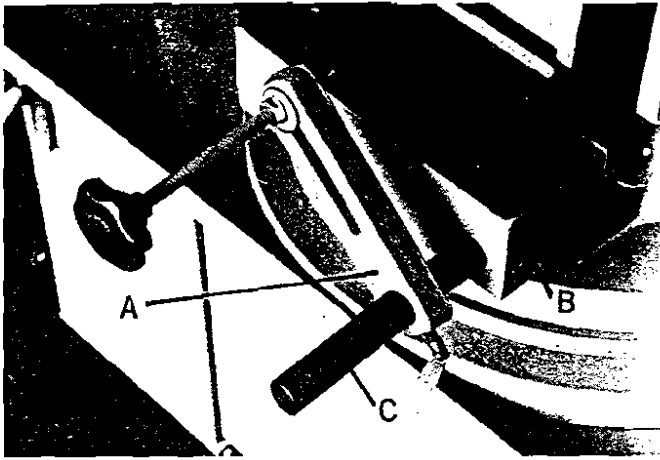

FIG. 11
The Stock Advance Stop is used mainly when more than one piece is to be cut the same length. Simply position the stop block (A) Fig.11, the desired distance away from the blade. The stop may be repositioned by loosening screw (B) and moving the rod (C) accordingly. To move the stop block (A) out of the way simply push it to the down position.